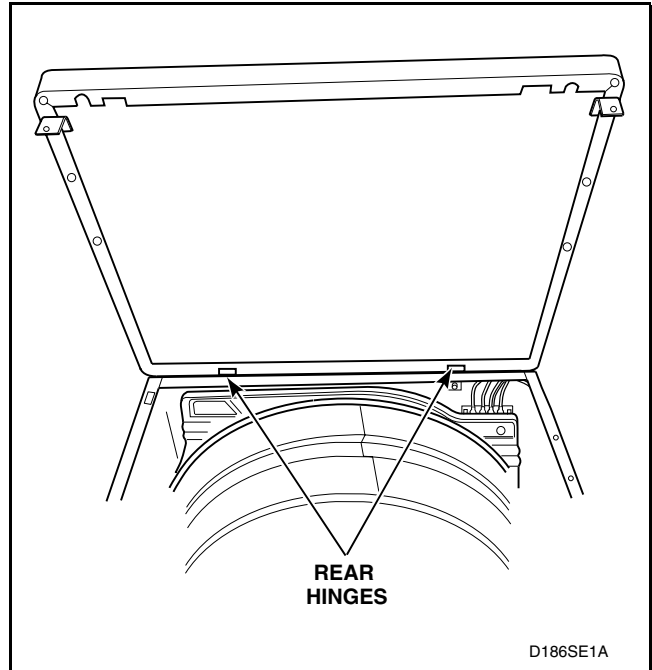

Figure 20
- Lift cabinet top to a vertical position by hinging it on the rear hinges. Refer to *Figure 20*.